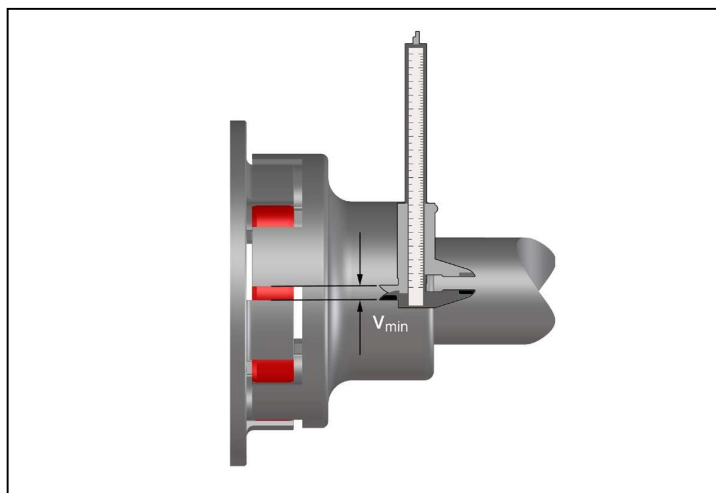

Fig. 9
- Measure the claw distance 'V' in circumferential direction across the buffers to which the claws rest on both sides (see fig. 9). The adjacent buffers do not contact the claws.